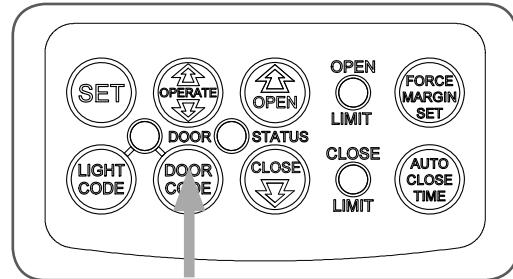

fig 27
- Press and hold the DOOR CODE BUTTON (**Fig. 27**).
- Press the transmitter button you would like to delete for two (2) seconds, pause for two (2) seconds, press again for two (2) seconds and then release.
- While switched off, press and hold the DOOR CODE BUTTON (**Fig. 27**). Turn on the power to the opener while holding this button.
- The OPEN LIMIT, CLOSE LIMIT and DOOR STATUS LED's will illuminate for about five (5) seconds. These LED's will turn off and the CODING LED will illuminate.